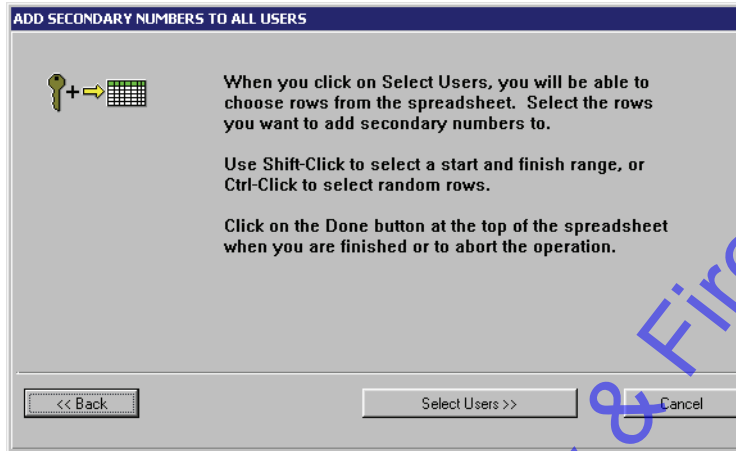

Figure 14-25: Add Secondary Numbers to All Users Window
6. Once the block enrollment fields have been filled in or the credentials have been presented to a reader or keypad, click on the button. The Add Secondary Numbers To All Users window will appear (see Figure 14-25).
- The confirmation display shows the number of Secondary IDs you are about to enroll. Take a moment to verify this number is correct. If this number is incorrect, click on the  button to return to the Add Secondary Numbers To All Users window (see Figure 14-25 on page 16 of this section), or the  button to return to the Enroll Cards window (see Figure 14-24 on page 15 of this section).